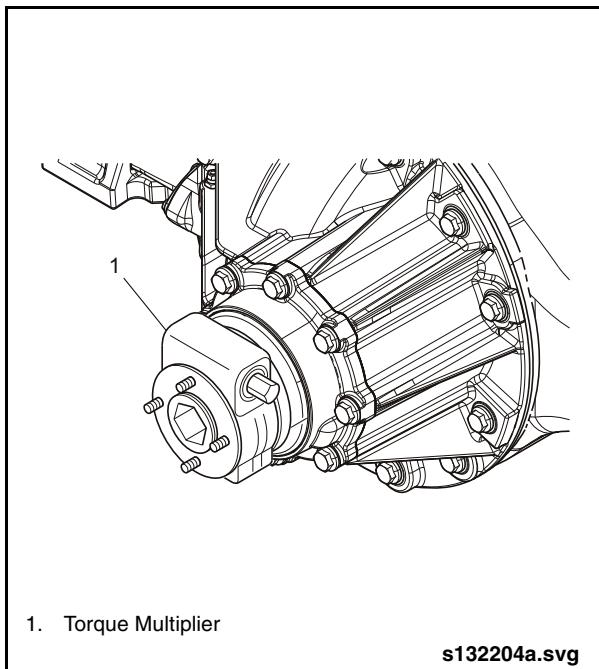

Fig. 2-32: Removing Slotted Nut
1. Loosen the slotted nut using the torque multiplier. The slotted nut must be turned counter-clockwise to loosen. See “Fig. 2-32: Removing Slotted Nut” on page 34.